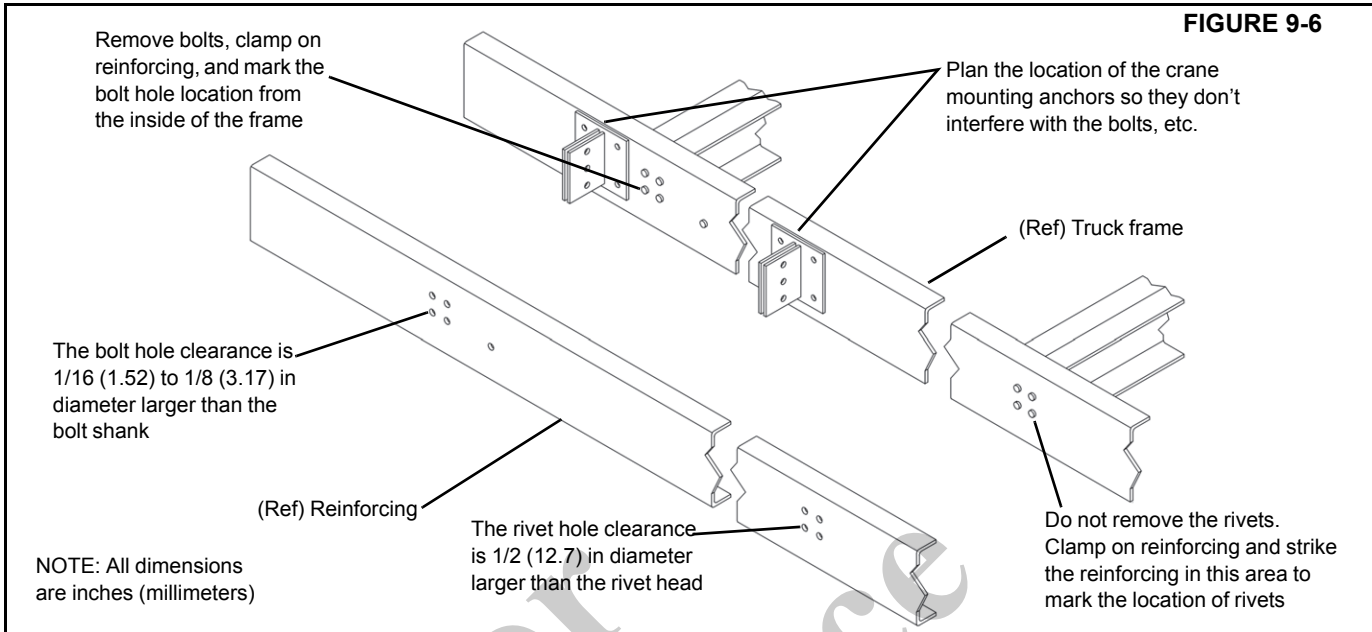

FIGURE 9-6
3. Place the reinforcing on the truck frame and clamp in place. Mark the location of rivets by striking the outside of the reinforcing over the rivet area so that the rivets make an impression on the inside of the reinforcing. Mark the approximate location of the crane mounting anchors so that no obstructions exist. Remove the reinforcing and cut clearance holes for the rivets (Figure 9-6).